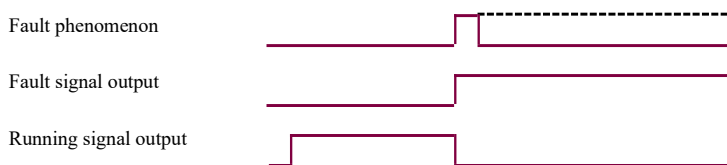

Figure 7- 15 Fault signal time sequence
- ① “Connected” above means: for relay output, normally open contacts (1B and 1C, 2B and 2C) are connected, normally closed contacts (1B and 1A, 2B and 2A) are disconnected; output to the open collector indicates that the output point is at low level state. Similarly, “Disconnected” above means: for relay output, normally open contacts (1B and 1C, 2B and 2C) are disconnected, normally closed contacts (1B and 1A, 2B and 2A) are connected; output to the open collector indicates that the output point is at high resistance state.
- ② At the factory settings, when P31.01 = 3, port Y0 is specified as the running signal (RUN) output port; when P31.02 = 2, port Y1 is specified as the output port of inverter fault signal.
- ③ Running signal (RUN) given: the running signal (RUN) is given only when the inverter receives the up/down direction command signal without basic electrode locking.
- ④ Fault signal time sequence: the fault signal is output in case of inverter fault and the running signal is cleared. The fault signal is latched and can be cleared by external input of reset signal, or reset operation of the operation panel, or power failure, or internal set delay time. The fault signal time sequence is shown in Figure 7- 15.